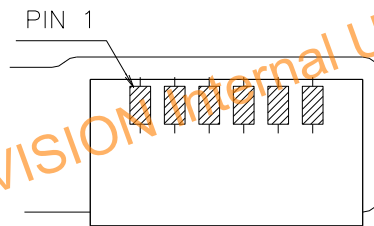

Figure1. Top View of LED Bar Connector
- Contrast measurements shall be made at viewing angle of $\theta=0^\circ$ and at the center of the LCD surface. Luminance shall be measured with all pixels in the view field set first to white, then to the dark (black) state. (See FIGURE 1 shown in Appendix) Luminance Contrast Ratio (CR) is defined mathematically.